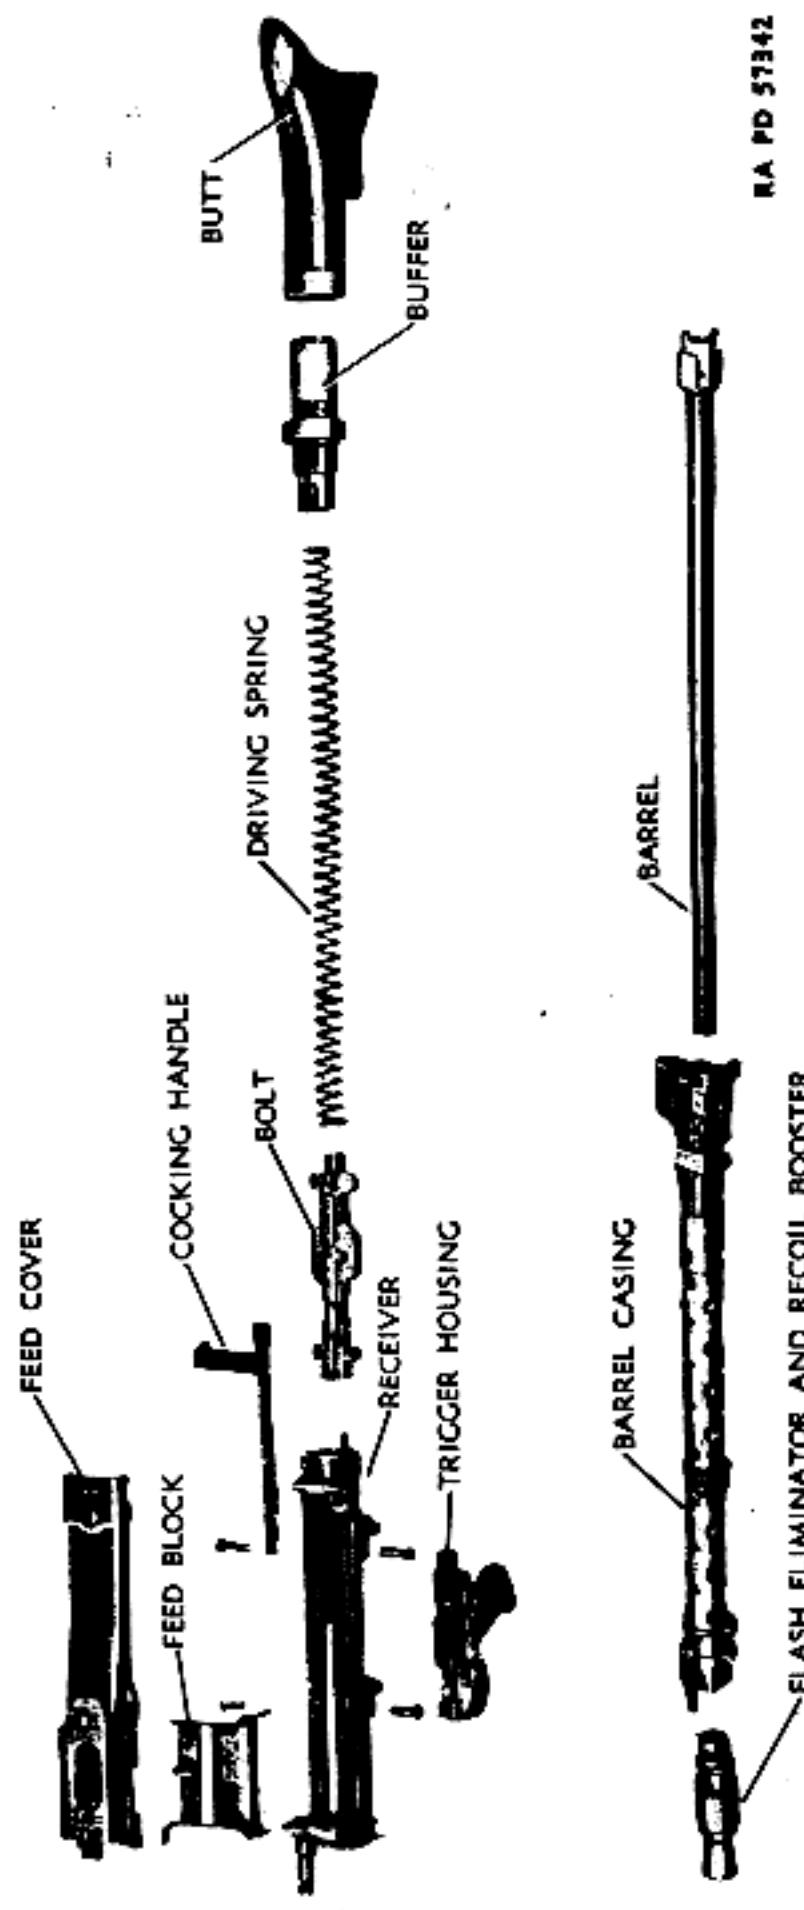

Figure 55 - Chief Components of the Machine Gun
i. The chief components of the machine gun are shown in figure 55.
b. Disassemble the gun into its main groups (fig. 55).
- (1) See that the bore is free from dust, dirt, mud, or snow.
- (2) See that the chamber is clean and free from oil.
- (3) Test the trigger mechanisms at SAFE and FIRE.
- (4) Work the bolt back and forth to see that it is clean and well oiled, and that it works freely.
- (5) Examine the belts and magazines to see that they are free from dirt and properly loaded. Discard defective belts and magazines.
c. During Firing. In general, it should not be necessary to disassemble the machine gun in the field for cleaning. However, if the mechanism becomes very dirty or functions sluggishly, disassemble the gun into its groups (fig. 55), and clean as instructed in paragraph 22.
c. After the bore and chamber have been cleaned, disassemble the gun (fig. 55). Clean all the metal parts with a clean dry rag, then wipe with a lightly oiled rag before assembling. After assembling, wipe the exterior surface with a rag lightly oiled with OIL, lubricating, preservative, light.